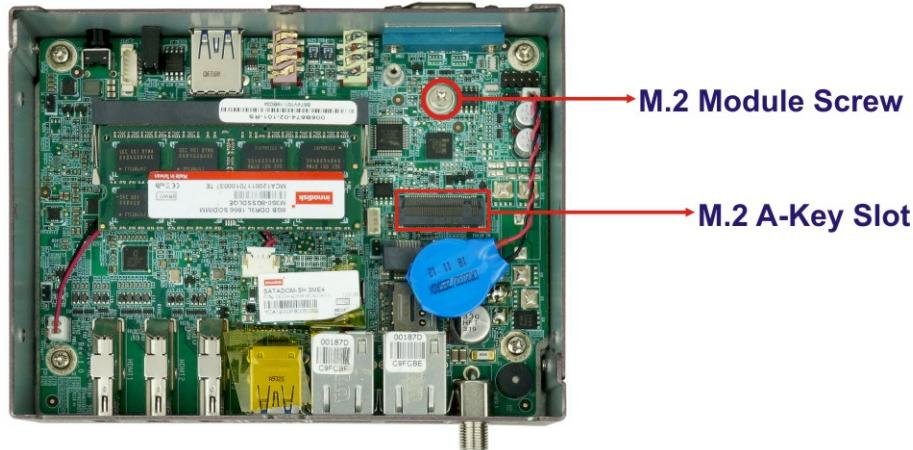

Figure 3-5: M.2 A-key Slot Location
Step 4: Locate the M.2 A-key slot on the motherboard (Figure 3-5). Remove the M.2 module screw.